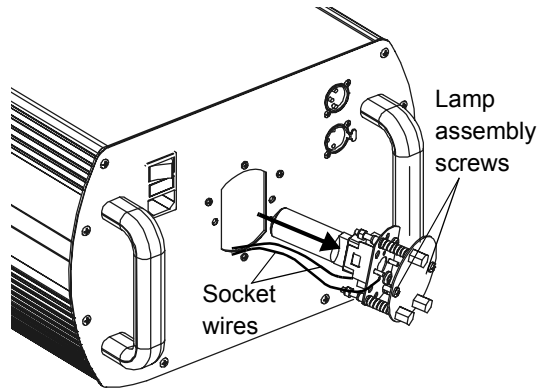

Figure 2-3 Removing lamp assembly
4. Pull the lamp assembly straight out of the fixture as shown in Figure 2-3.